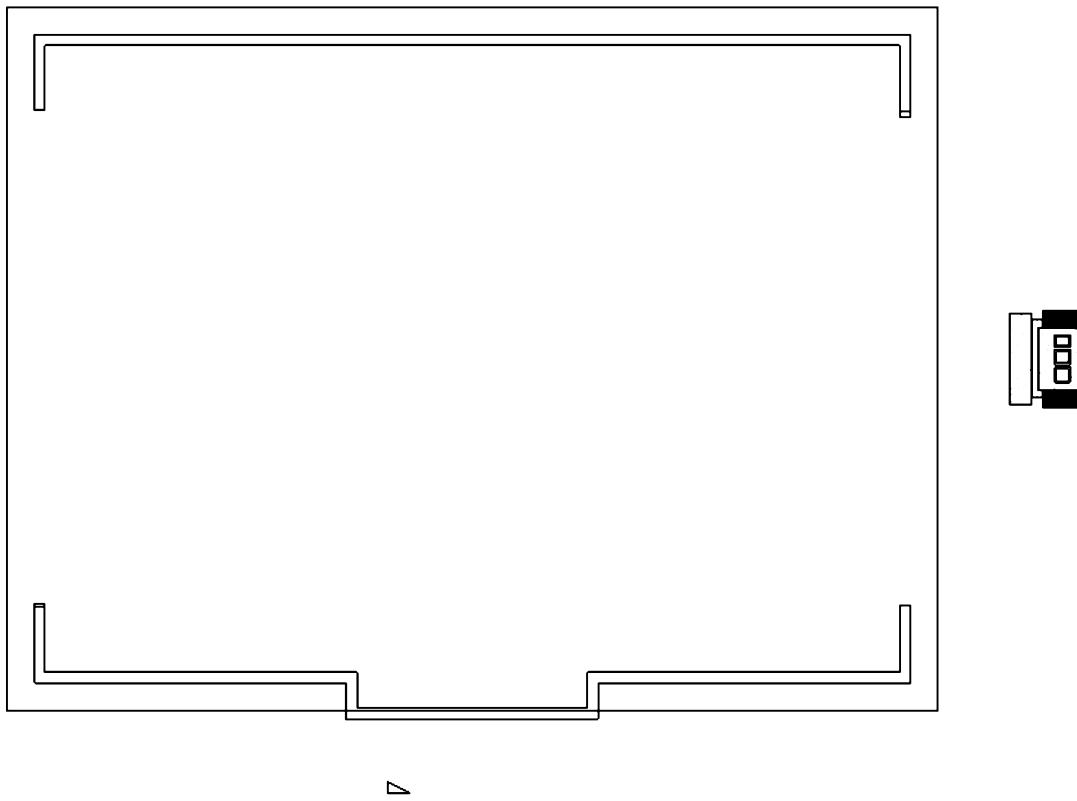

FIGURE 8-2.4 Roof Plan; entire roof perimeter defined
12. Select the **Trim** icon from the contextual tab on the *Ribbon*, and then select the roof lines that are not yet connected to make them connected (Figure 8-2.4).